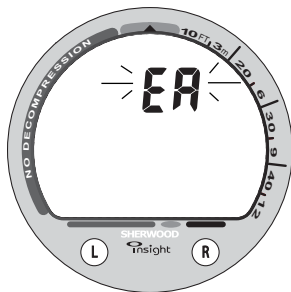

Fig. 48 - EA Mode
- press the L (LEFT) button 2 times - EA appears, flashing (Fig. 48)